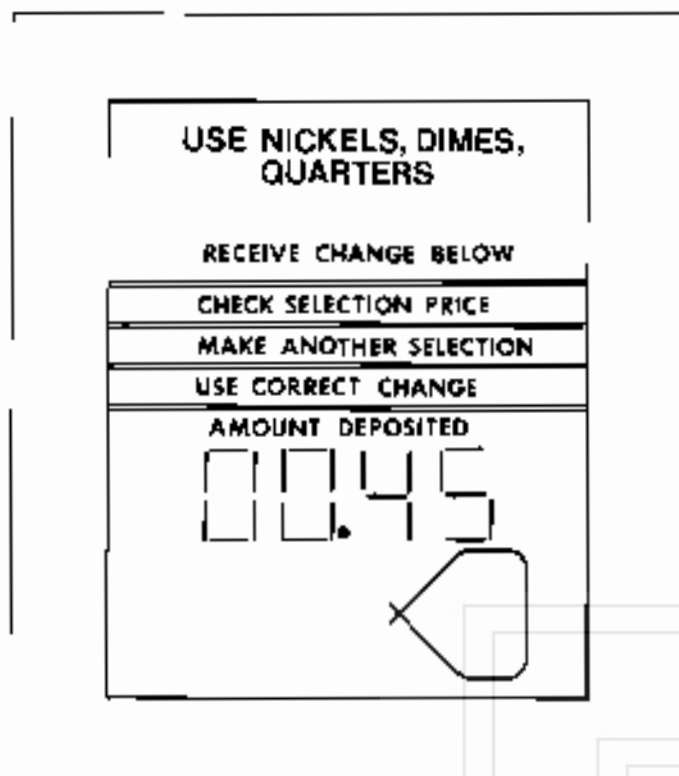

Figure 15. SHOWING A SELECTION PROGRAMMED FOR 45¢
- B. Press the letter and then the number for the first selection to be checked. The price display will show the price that selection is programmed for (Figure 15). Check the displayed price against the price tag on the shelf for that selection.
- B. Press the enter and then the number for the first selection to be checked. The display will show the price and product code that selection is programmed for (Figure 15). Check the displayed price against the price tab on the shelf for that selection.
- C. To display number of vends by any product code. For example, enter the product code (63) then the enter G. The number of vends and the product code will be displayed. Repeat until all desired information has been displayed and recorded.